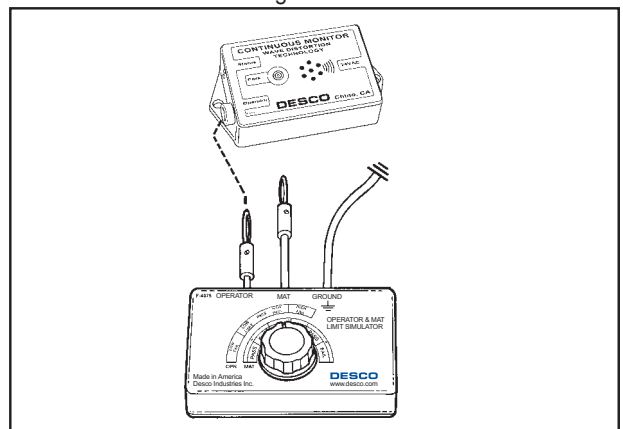

Figure 8. Connecting test lead from 98220 to 19226/19227.
**Step 2:** Insert the calibration unit's banana plug marked "Operator" into the jack marked "Operator" on the 19226/19227 tester. See figure 8.